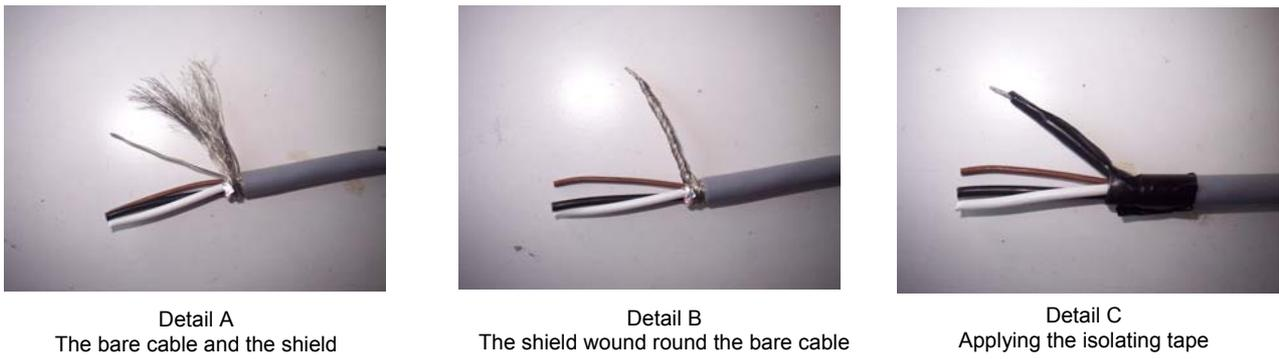
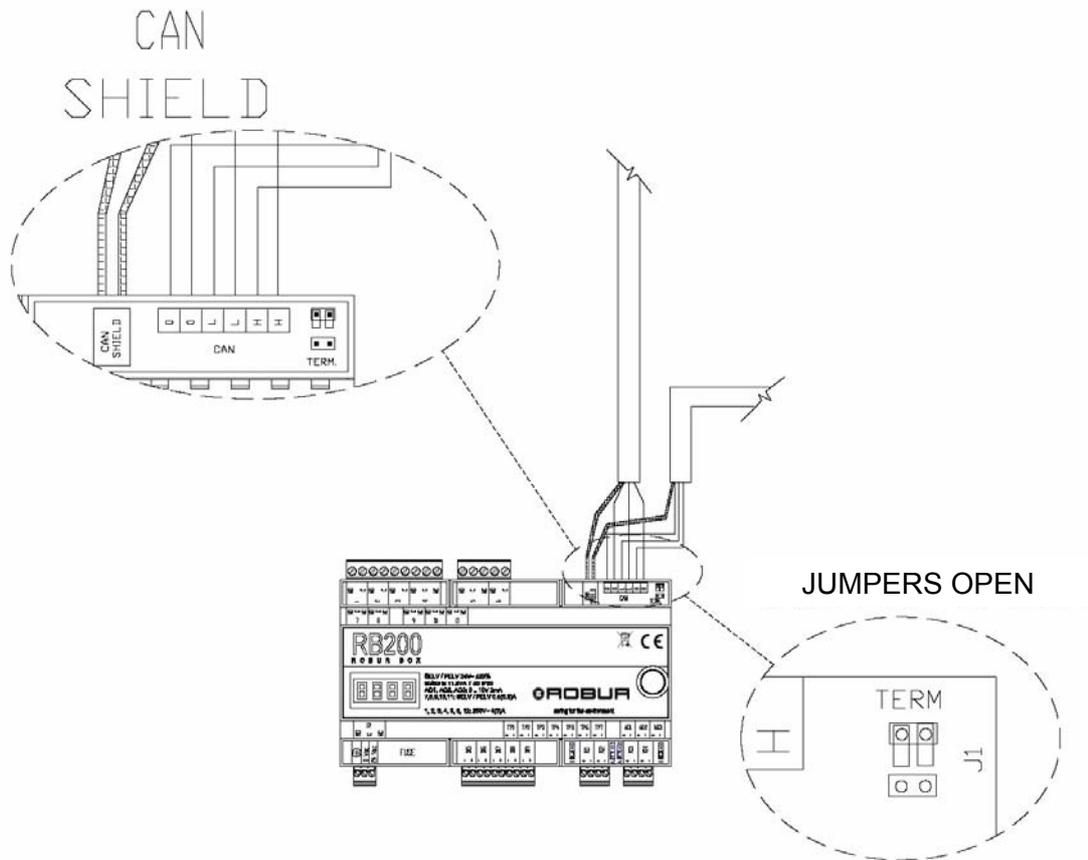

Figure 21 Connection for CAN BUS cable shield
Figure 23 - Connection of 2 CAN BUS cables to RB200: Appliance IS AN INTERMEDIATE NODE. Positions for CAN BUS cable wires and jumpers are pointed out: OPENED.
3. If the bare cable is in contact with the shield, wrap the shield tightly round it leaving a free length of 5-6 mm. If it is not, separate a part of the wires from the shield (in a quantity that will then be possible to fit into the terminal block) and plait to obtain a cable, then wind the rest of the shield tightly round it as above, leaving a free length of 5-6 mm. (Figure 21 details A and B).
4. Apply isolating tape to shield section between cable and the end of the wire, leaving a free length of 5-6 mm, (Figure 21 part C).
7. **For intermediate nodes only:** Repeat operations from points 1 to 6 for the other CAN BUS cable section end necessary, referring to Figure 20. Figure 21 and the diagram shown in Figure 23.
- If the appliance is an **intermediate node** of the network (in the “CAN” connected on the board there are 6 wires): place the jumpers open, as shown in Figure 23 and Figure 24, **in the last photo on the right.**